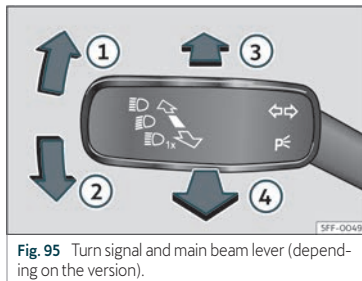

Fig. 95 Turn signal and main beam lever (depending on the version).
- From the base position, press the turn signal and main beam headlights lever forwards >>> **Fig. 95**  When the lamp  is displayed on the instrument panel display, the main beam assist is switched on.
- **OR:** while the main beam is on, pull the turn signal light and main beam headlights lever forwards >>> **Fig. 95** .